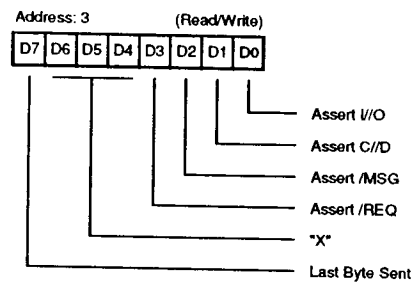

Figure 11. Target Command Register
**Bit 2. Monitor Busy.** The Monitor Busy bit, when True (1), causes an interrupt to be generated for an unexpected loss of /BSY. When the interrupt is generated due to loss of /BSY, the lower six bits of the Initiator Command Register are reset (0) and all signals are removed from the SCSI Bus.
**Bit 3. Enable/EOP interrupt.** The enable /EOP interrupt, when set (1), causes an interrupt to occur when the /EOP (End of Process) signal is received from the DMA controller logic.
**Bit 4. Enable Parity Interrupt.** The Enable Parity Interrupt bit, when set (1), will cause an interrupt (IRQ) to occur if a parity error is detected. A parity interrupt will only be generated if the Enable Parity Checking bit (bit 5) is also enabled (1).
**Bit 5. Enable Parity Checking.** The Enable Parity Checking bit determines whether parity errors are ignored or saved in the parity error latch. If this bit is reset (0), parity is ignored. Conversely, if this bit is set (1), parity errors are saved.
**Bit 6. Targetmode.** The Targetmode bit allows the SCSI to operate as either a SCSI Bus Initiator, bit reset (0), or as a SCSI Bus Target device, bit set (1). If the signals /ATN and /ACK are to be asserted on the SCSI Bus, the Targetmode bit must be reset (0). If the signals C//D, I//O, /MSG, and /REQ are to be asserted on the SCSI Bus, the Targetmode bit must be set (1).
**Target Command Register. Address 3 (Read/Write).** When connected as a target device, the Target Command Register (Figure 11) allows the CPU to control the SCSI Bus Information Transfer phase and/or to assert /REQ by writing this register. The Targetmode bit (Mode Register, bit 6) must be True (1) for bus assertion to occur. The SCSI Bus phases are described in Table 2.